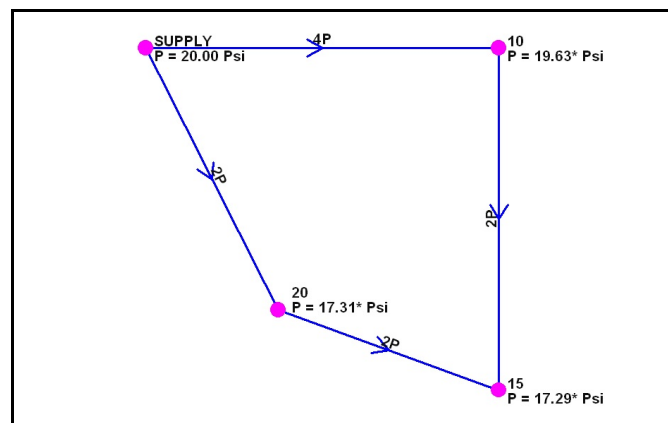

Figure 3
- The pressure values and flow directions should be similar to those shown in Figure 3.